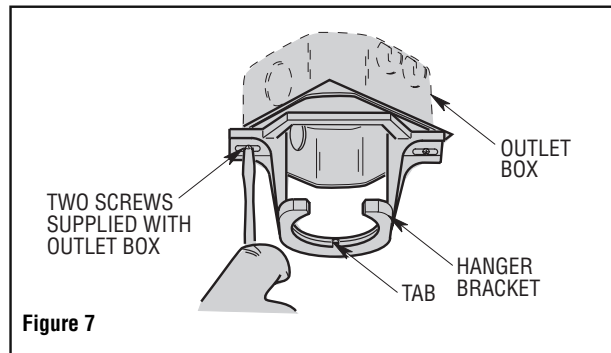
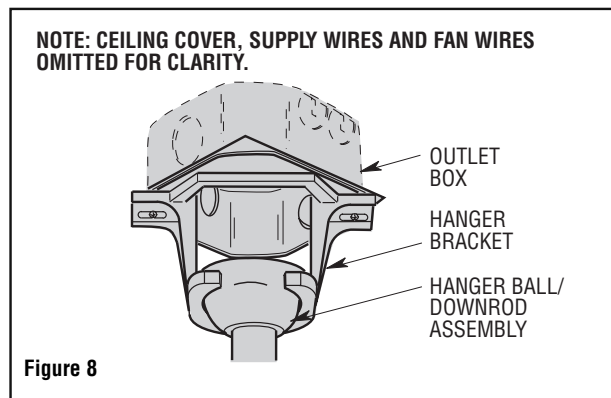

Figure 7
Figure 8
1. Securely attach the hanger bracket to the outlet box using the two screws supplied with the outlet box. (Figure 7.)
2. Carefully lift the fan and seat the hanger ball/downrod assembly on the hanger bracket that was just attached to the outlet box (Figure 8). Be sure the groove in the ball is lined up with tab on the hanger bracket (Figure 7).